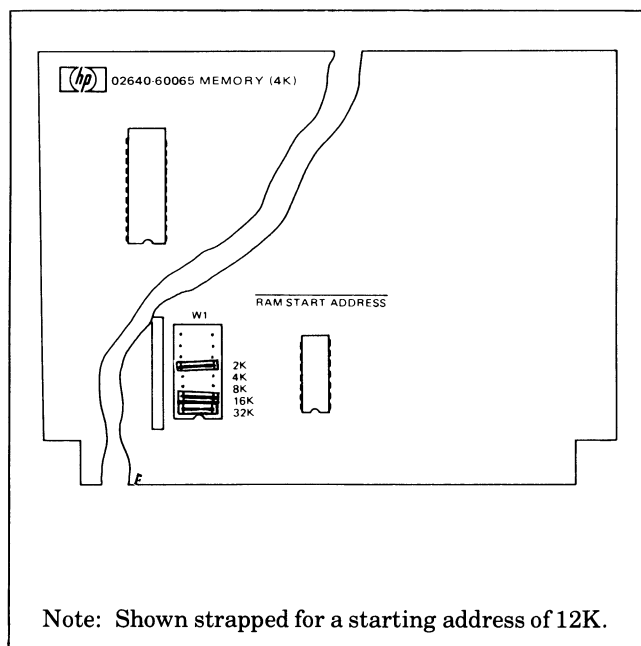

Figure 7-9. 4K Memory PCA Jumper Socket Location
3. () Using figure 7-9 as a guide, locate memory jumpers on the 4K Memory PCA(s).